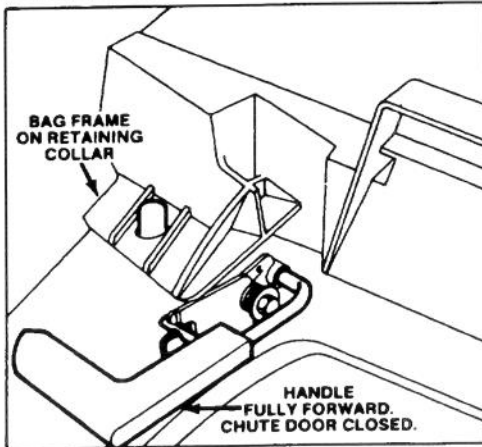

Figure 5
MULCH — In summer, when grass grows slower and is drier, mulch by closing chute door (Fig. 5). For convenience and protection, keep grass bag on mower.
6. EMPTYING BAG — Release control bar and wait for blade to stop. Move chute door handle forward to engage the locking pin with catch (Fig. 5). Grasp handle at front and rear of bag and lift bag off mower. Gradually tip bag forward to empty clippings.